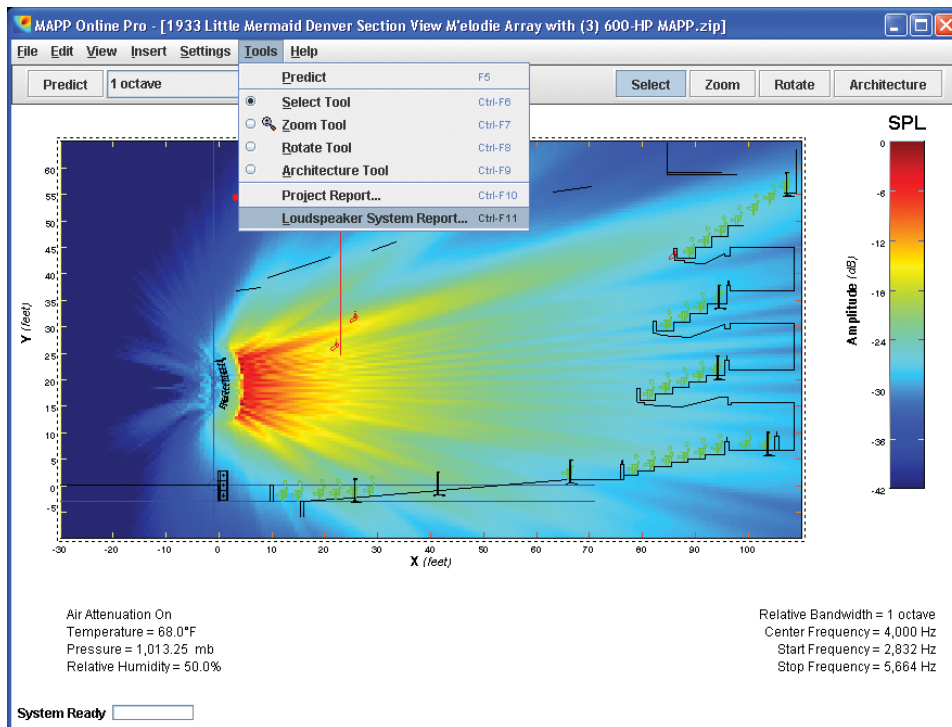

Figure 34. Selecting a loudspeaker system and generating a report
2. From the **Tools** menu, select **Loudspeaker System Report** (Figure 34).